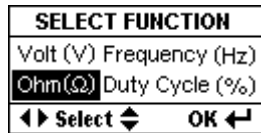
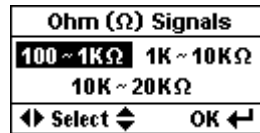

Fig.13
Fig.14
- While the menu display screen (Fig. 5 above) select [Ohm Ω] Fig. 13 by pressing \blacktriangledown key once and then press OK \blacktriangleleft key will enter into the Resistance simulation menu (Fig. 14) below.